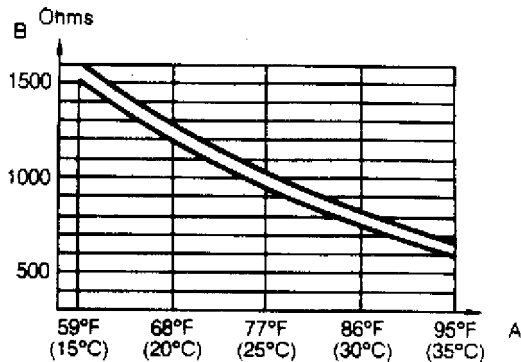

Fig. 11: Outside Temperature Sensor Graph
- 2) Check wire from control head terminal No. 5 to outside temperature sensor for open or short circuit. If okay, check ground wire from outside temperature sensor for open circuit. If okay, check resistance of outside temperature sensor. If resistance is okay, replace control head. If resistance is not okay, replace sensor. See Fig. 11.